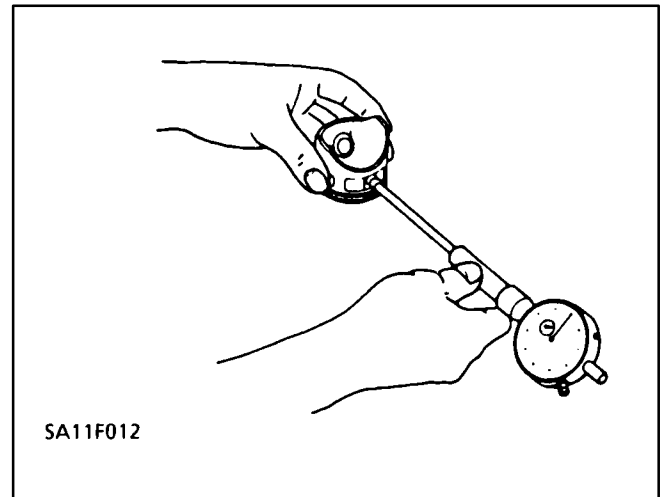

FIGURE 10-26. PISTON BOSS I.D.
1. Measure the piston boss I.D. in both the vertical and horizontal direction with a cylinder gauge (Figure 10-26).